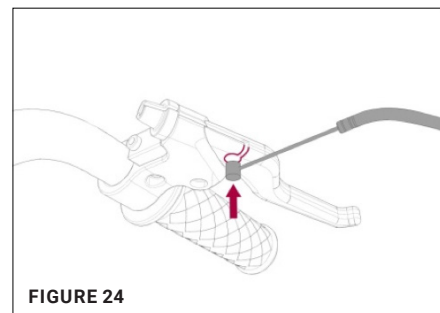

FIGURE 24
7. Attach the brake cable. [Figure 24]